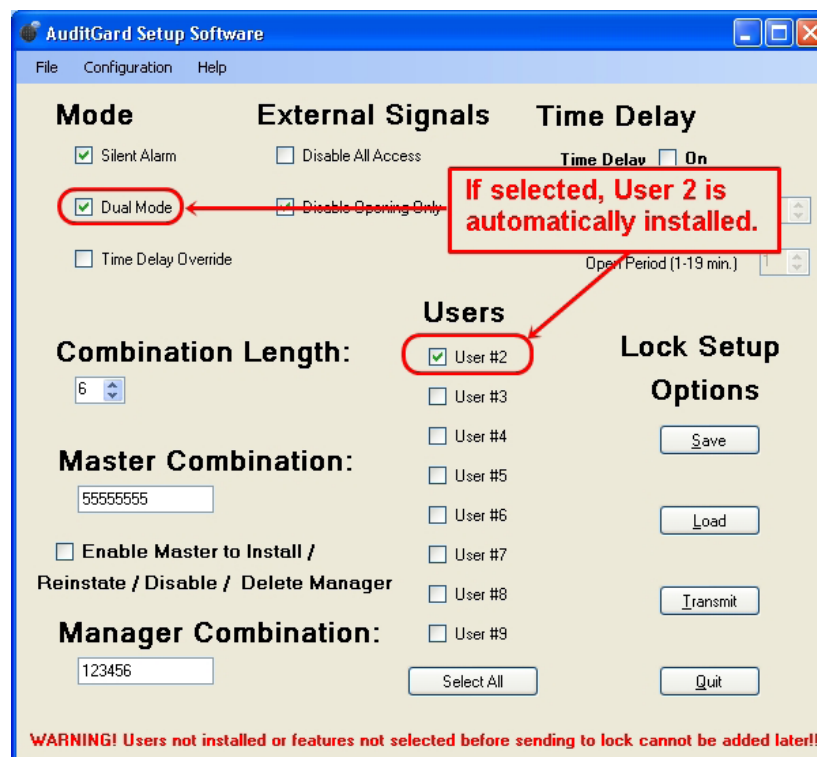

Figure 5
**Dual Mode:** If selected, two combinations are required to operate the lock. At least one additional User with combination must be installed. The software will automatically install User 2 if no other User(s) are selected for installation (Figure 5).